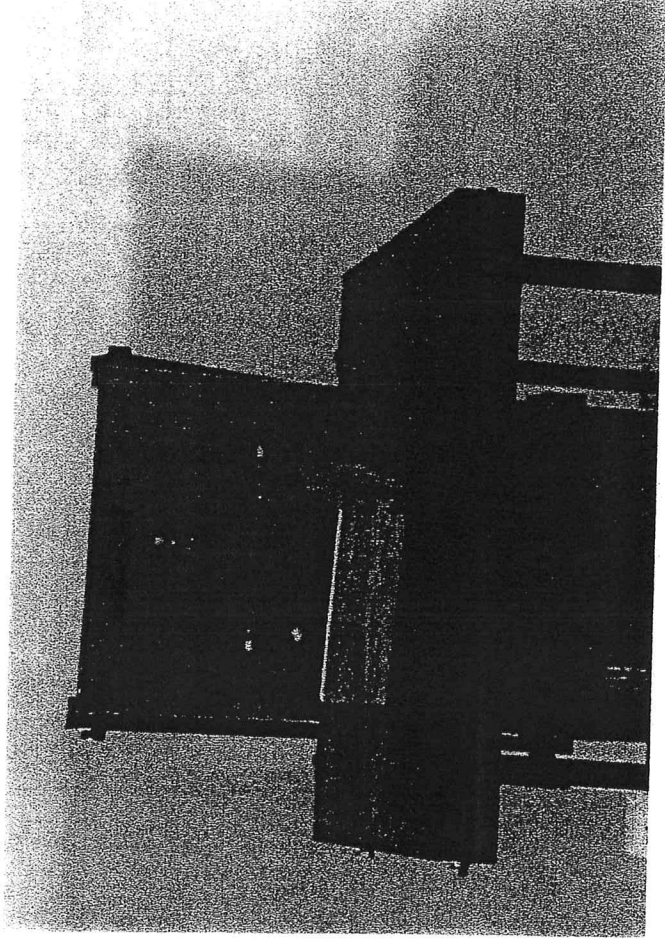

Fig. 19
7. Slide joint together and inspect fit. (fig. 19)